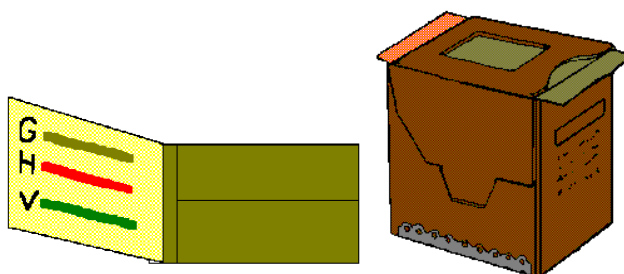

Figure 1, M8 and M9 Chemical Agent Detection Paper
- M8 and M9 Chemical Agent Detection Paper, TOs 11H2-14-5-1 and 11H2-2-21: This is the most widely used chemical agent detector. This paper will detect liquid nerve and blister agents. Mark the date and time (in indelible ink) on the paper when it's placed on or around buildings, vehicles, and equipment. Don't handle M8 or M9 Paper without wearing gloves. On buildings place M8 and M9 paper horizontally out in the open away from overhead cover. On vehicles, tape M8 or stick M9 Paper to vehicle surface. When MOPP-2 is declared everyone must place M9 Paper on their chemical ensembles according to TO 14P3-1-141(Groundcrew Chemical Defense Ensemble). See Figure 1.